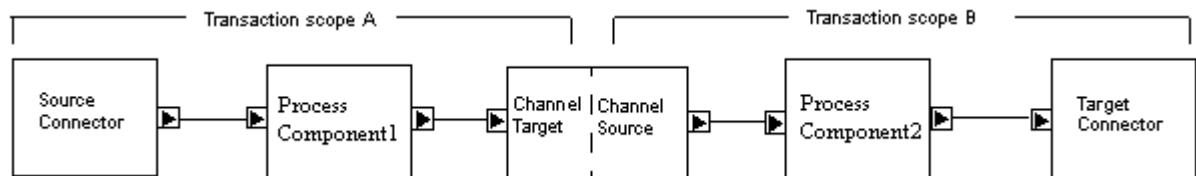

Figure 25-6 Sample Integration Model and Transaction Scopes
For example, refer to Figure 25-6.
BusinessWare transaction scopes do not always correspond to the scope of a “business transaction.” For example, suppose that, from a business point of view, all actions in Figure 25-6 should be protected by a single transaction. That is, a complete “business transaction” consists of all the processing from connector source through connector target. However, as Figure 25-6 shows, these actions will be protected by a pair of BusinessWare transactions. If both BusinessWare transactions successfully commit, there is no discrepancy; the two BusinessWare transactions produce the same result as a single “business transaction.” However, it is possible that a transaction created by the source connector (scope A) commits but the following transaction (scope B) created by the Channel Source fails. In that case, the BusinessWare transactions have been completed ACIDly but the “business transaction” has not been completed ACIDly; only those actions in transaction scope A have been completed ACIDly.
- Transactional publishing (Transactionality = Two-phase) is the default. It makes the Channel Target’s publish operation a part of the transaction scope that started upstream as illustrated in Figure 25-6. If the transaction is successfully committed, the events published by the target connector are guaranteed to have reached the channel.
- Publishing non-transactionally (Transactionality = Local) improves performance by excluding the Channel Target from the transaction scope that started upstream. For example, in Figure 25-6, if the Channel Target's Transactionality was set to Local, transaction scope A would end with the process component.